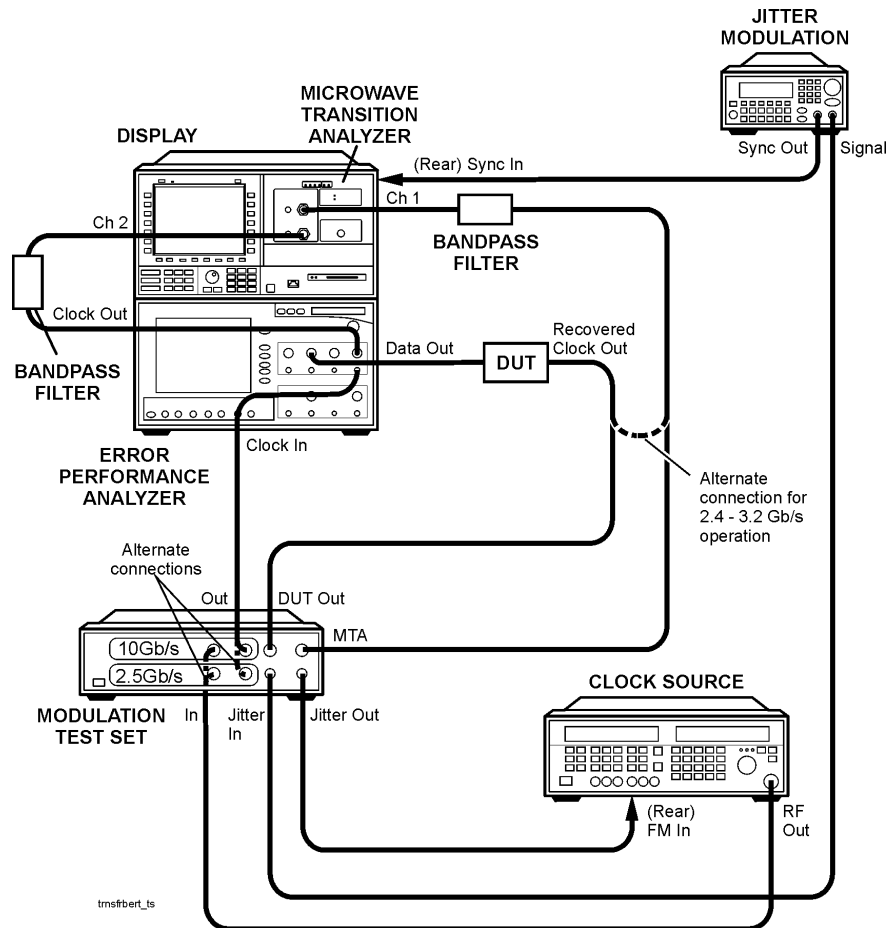

Figure 3-5. Jitter Transfer and Generation Connections with Modulation Test Set and Stand-Alone¹ Error Performance Analyzer and Stand-Alone² Clock Source
- For stand-alone error performance analyzers (70843A/B/C and 86130A), refer to Figure 3-5 on page 3-12.